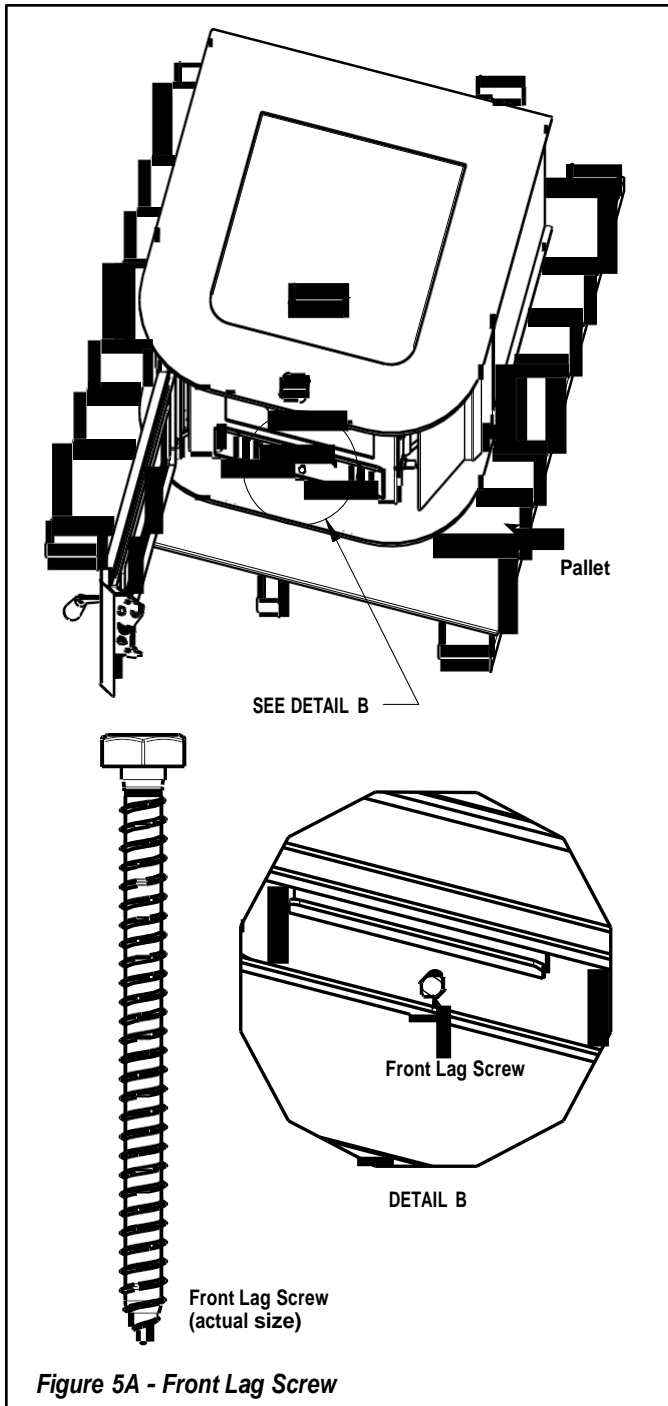

Figure 5A - Front Lag Screw
2. With the stove door open, remove the ash drawer and set aside. Using a 7/16" socket or open end wrench, remove the front lag screw (see **Figure 5A**).